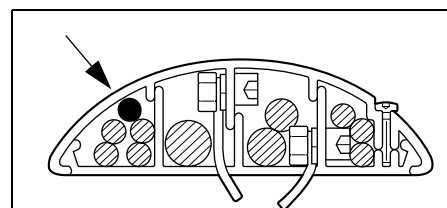

Figure14.
- Lay the cable between generator and stand, in one of the outer cable duct compartments, see Figure 14.